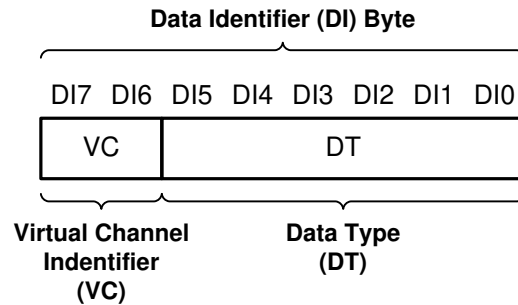

Figure 7-11. CSI-2 Data Identifier Structure
The DS90UB954-Q1 MIPI CSI-2 protocol interface transmits the data identifier byte containing the values for the virtual channel ID (VC) and data type (DT) for the application specific payload data, as shown in Figure 7-11. The virtual channel ID is contained in the 2 MSBs of the data identifier byte and identify the data as directed to one of four virtual channels. The value of the data type is contained in the six LSBs of the data identifier byte. When partnered with a DS90UB953-Q1 or DS90UB935-Q1 serializer, the Data Type is passed through from the received CSI-2 packets. When partnered with DS90UB933-Q1 or DS90UB913A-Q1 the received RAW mode data is converted to CSI-2 Tx packets with assigned data type and virtual channel ID and matches what is sent by the video source.